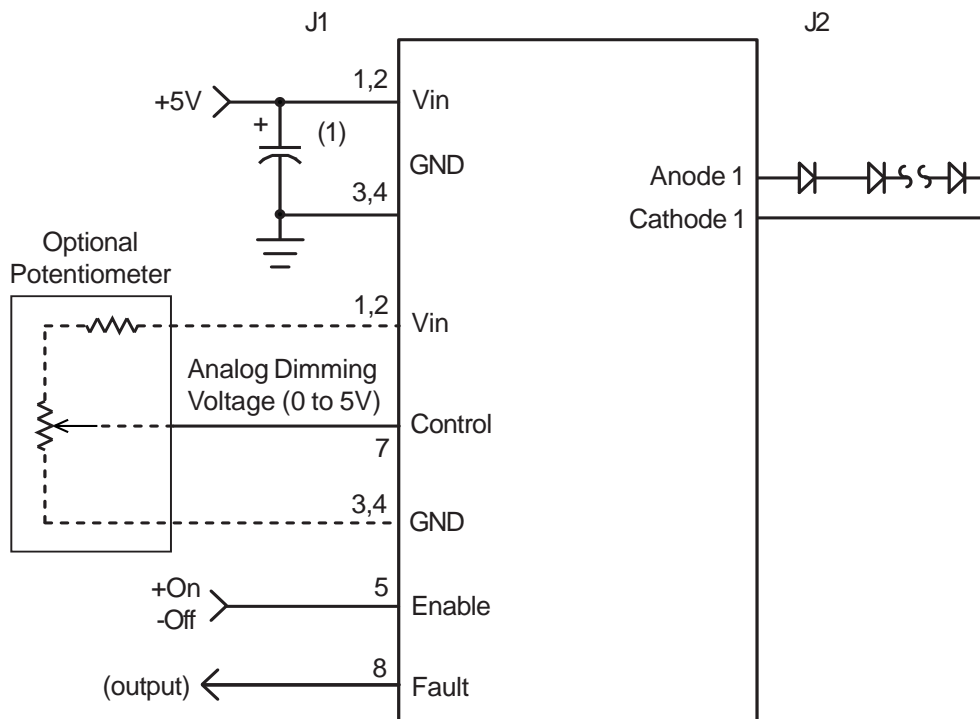

Figure 1
- **OPERATION:** Onboard PWM configuration as shown in Figure 1 allows the user to control display brightness by controlling the onboard PWM generator. The user is responsible to provide an analog control signal. A dimming ratio up to 255:1 is possible with this configuration.